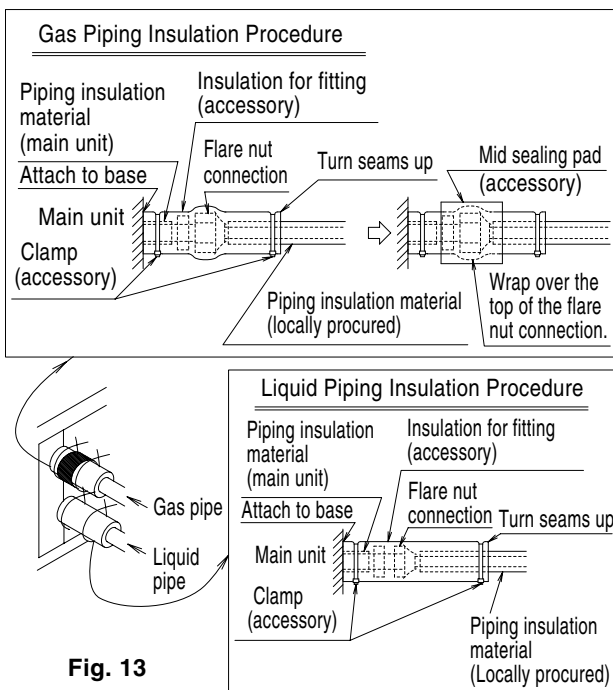

Fig. 13
- After checking the pipe-connection for gas leakage, be sure to insulate the liquid and gas piping. **(Refer to Fig. 13)**